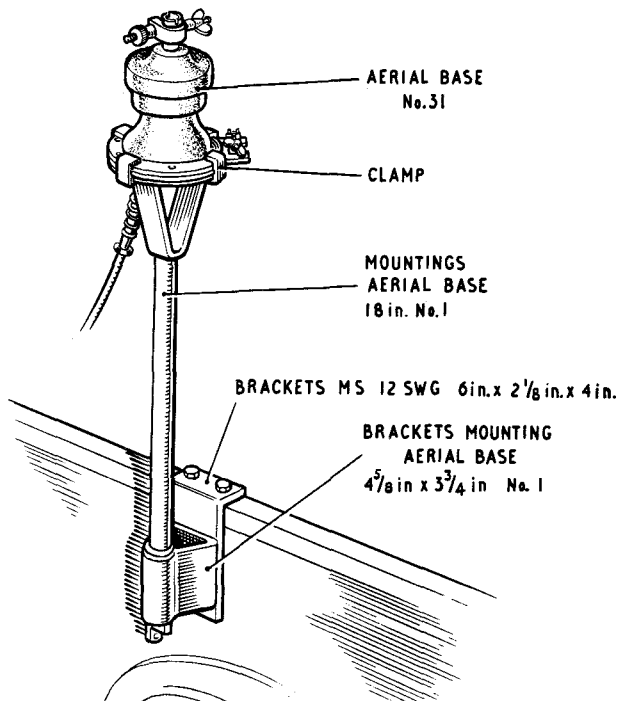

FIG. 20 HF AERIAL MOUNTING BRACKETS SHOWN ON THE LH SIDE
(3) Clamping the aerial base to the mounting on the vehicle
- (b) Fit the two halves of the clamp on the plate plastic, screw clamp upwards as in fig. 20, and engage the two dowel pins in any two adjacent holes. Position it so that the clamp does not project outwards from the side of the vehicle.
- (c) Open the clamp sufficiently to allow the aerial base to be fitted on the two dowel pins. Then close the clamp to bring the holding lugs together so that they grip the mounting and plate underneath, and the aerial base on the top. Tighten the wing nut to secure the assembly. See fig. 20.